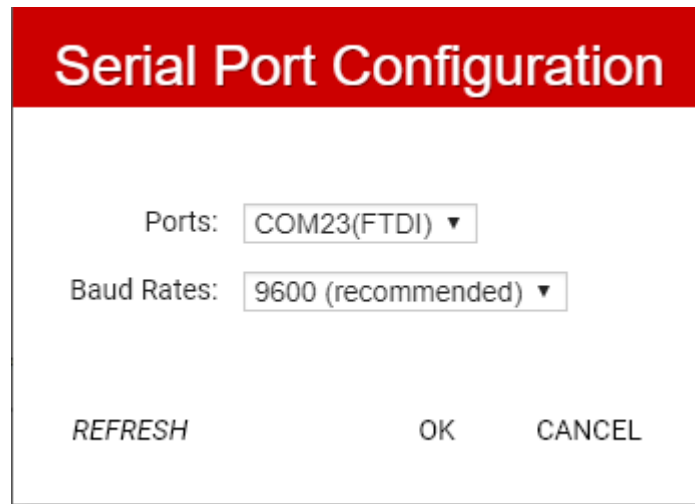

Figure 4. Serial Port Configuration
1. Click Options -> Serial Port. A serial port configuration popup is displayed as shown below in Figure 4.